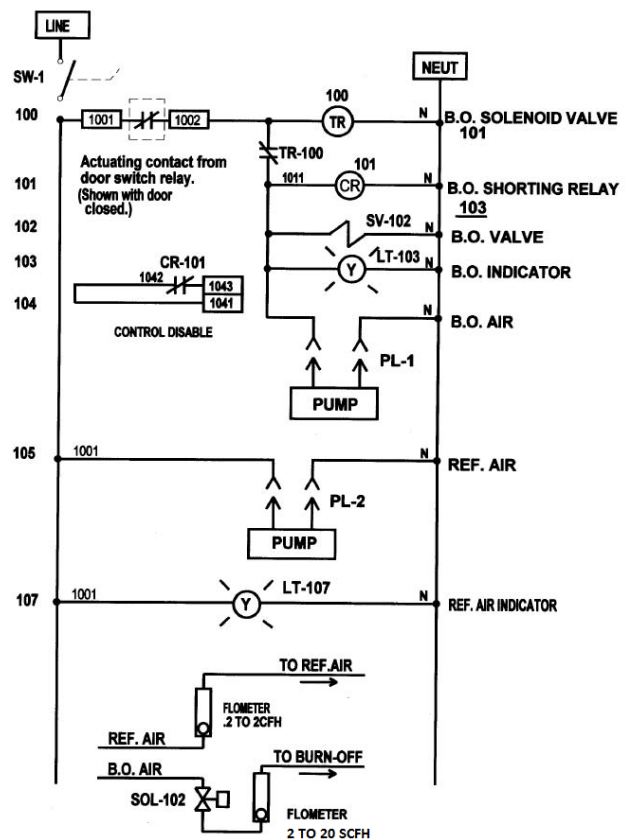

Fig. 6
If you already have a control system for your carbon sensor, you have been provided with a reference air supply and perhaps a probe conditioning system as well (see Fig. 6). It is important to emphasize that the reference air be *clean and dry*. Any combustibles or moisture in the reference air will cause the sensor to read low, resulting in over-carburization. Avoid the use of lubricated plant compressed air. Air connection at the sensor should be silicone rubber tubing to avoid problems related to the high temperatures normally encountered at the sensor connection block.
**Probe conditioning:** While periodic furnace burnout is desirable, the process by which solid carbon or 'soot' is deposited continues in the probe, and must be remedied more frequently to keep the probe in peak operating condition. SSi technical staff has pioneered in techniques to achieve this. Soot deposition occurs in two critical locations; the annular space between the sheath and the measuring surface and at the measuring junction between the zirconia and the contact point with the sheath, which is the measuring electrode. The probe is burnt out by the flowing air into this space through the burnout fitting provided. The flow of air must be set at a rate that allows a temperature rise of no more than 100 degrees Fahrenheit (38 degrees Celsius). If possible the flow should be set high enough to overcome the effect of the work chamber fan and drop the output voltage well below 200 MV. Conducting this process for a 90 second period before or after each batch, or every six to twelve hours in a continuous furnace, will provide adequate conditioning in most cases. See Fig. 6.